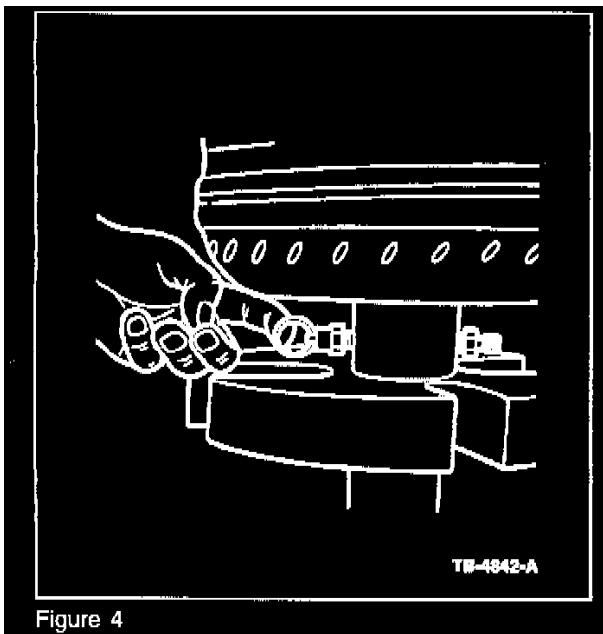

Figure 4
6. Disconnect the air line and release the air pressure from the tool by pulling on the release ring and then slowly releasing the press. Refer to Figure 4.